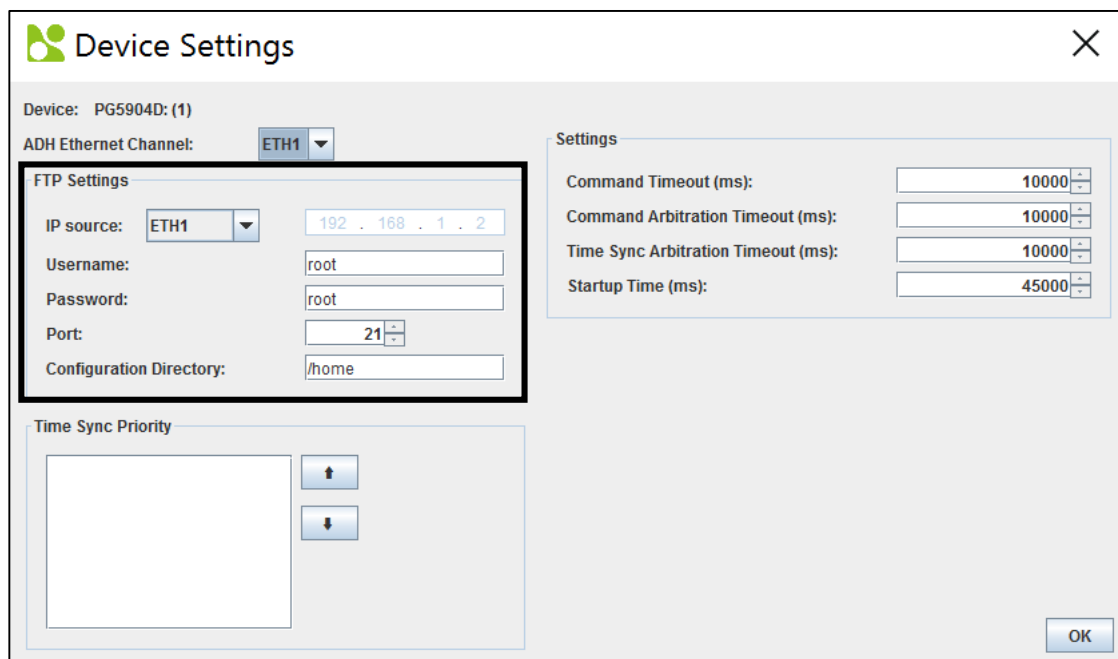

Figure 5-25 - Device settings window.
- 1** **Open Device Settings** – Can be used to change FTP settings as in **Figure 5-25**.